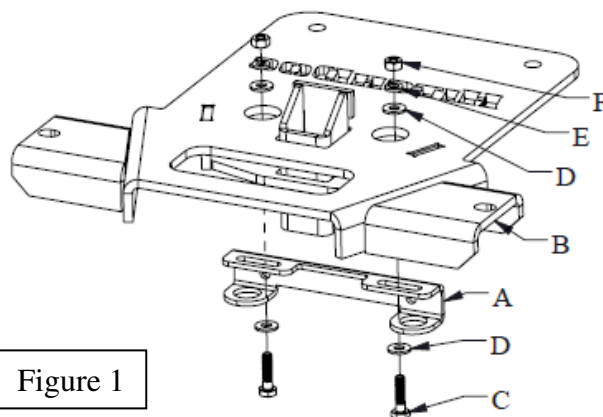

Figure 1
2. (Optional) Install the mud flap/safety chain bracket (Item A) [Figure 1] using the 1/4 x 1" hex bolts (Item C), 1/4 flat washers (Item D), 1/4 lock washers (Item E), and 1/4 hex nuts (Item F).